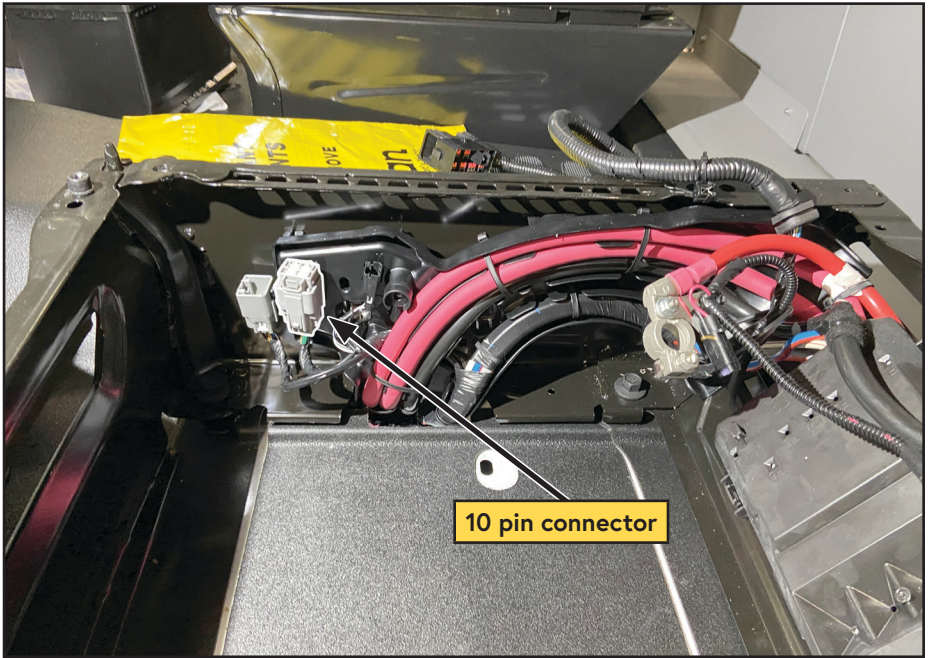

Figure 53 — Connect key switch power
- ***If pin 6 is already populated:** Splice the violet wire ("KEY SW PWR") into the existing wire populating pin 6 (Figure 53).